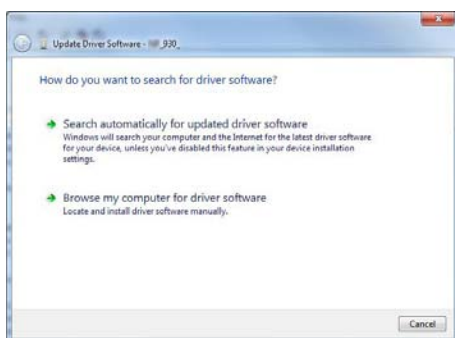

Figure 37: Update Driver Software Wizard
- Choose the option “Browse my computer for driver software” (see Figure 37).